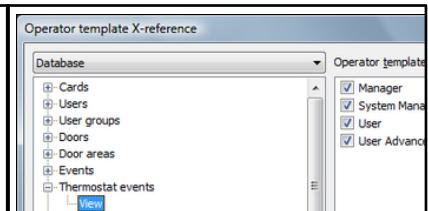

Figure 8
2. Under the **Database** alternative in the drop-down-menu, click the plus sign in front of the concerned item. For the items *Thermostat events* and *EMS summary*, the only available alternative is **View** (see Figure 8). For the items *Thermostats* and *Thermostat profiles*, the alternatives **View**, **Add**, **Update** and **Remove** are available; see examples in the screenshots to the right. Mark the applicable alternative to the left and unmark/mark the concerned operator template(s) in the right part of the dialog.